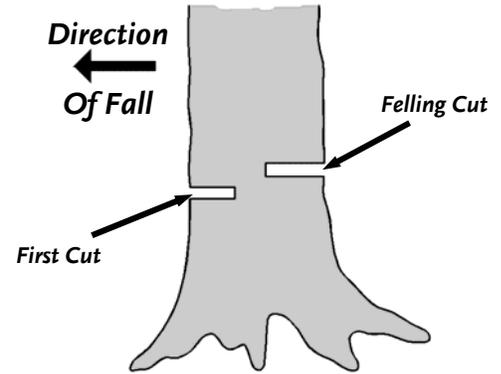

Figure 4
1. Balance the Trimmer on the wheels to the desired height and make the first (lower) cut through 1/3 of the diameter of the tree (**Figure 4**).